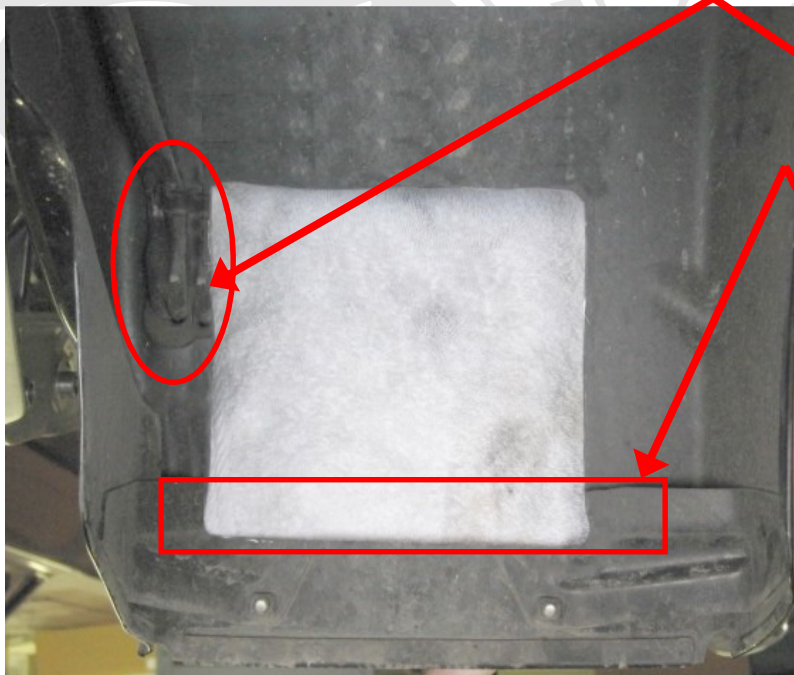

Fig.11A
- The bottom of the opening should be approximately $\frac{1}{2}$ " to $\frac{3}{4}$ " cut into the top portion of the two angled fender cross supports, approximately 6" wide X 4" high. The hole should be offset towards the rear brake light wiring rubber grommet, approximately within $\frac{1}{4}$ " from grommet edge. (Fig.11A, 11B)